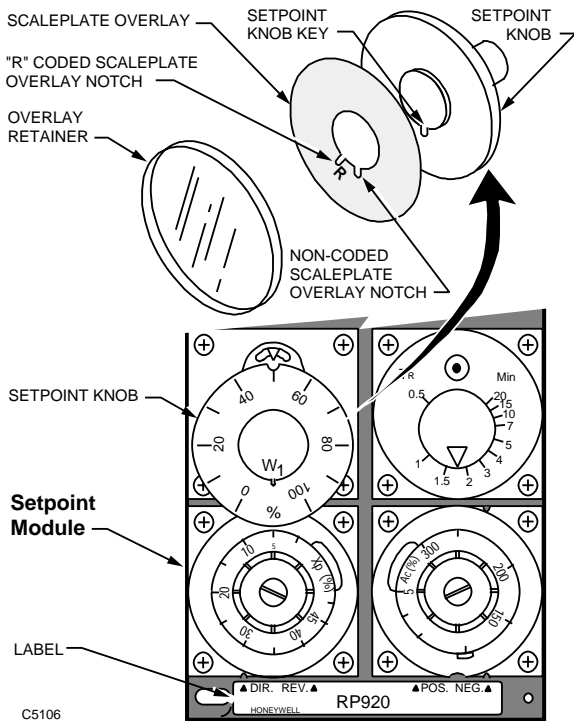

Fig. 7. Setpoint (W_1) Adjustment.
1. If using a scaleplate overlay, insert the overlay between the setpoint knob and the transparent overlay retainer. Note positions of the key and non-coded scaleplate overlay notch (Fig. 7).
1. Adjust the setpoint knob to 100 percent (Fig. 7) or to the maximum remote setpoint limit to be applied.
3. Note the position of key on the setpoint knob and the non-coded scaleplate overlay notch (Fig. 7) for controllers with U.S.A. labels. Controllers (RP920B,C,D) with German labels must use "R" coded scaleplate overlay notch when using a CPA device.